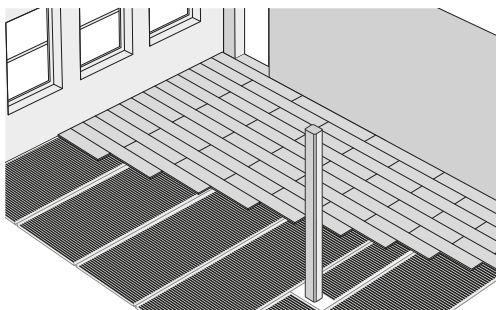

Fig. 10. Install flooring
- The flooring shall be installed as a float-ing layer and can not be fixed to the underlying layers. (fig. 10)